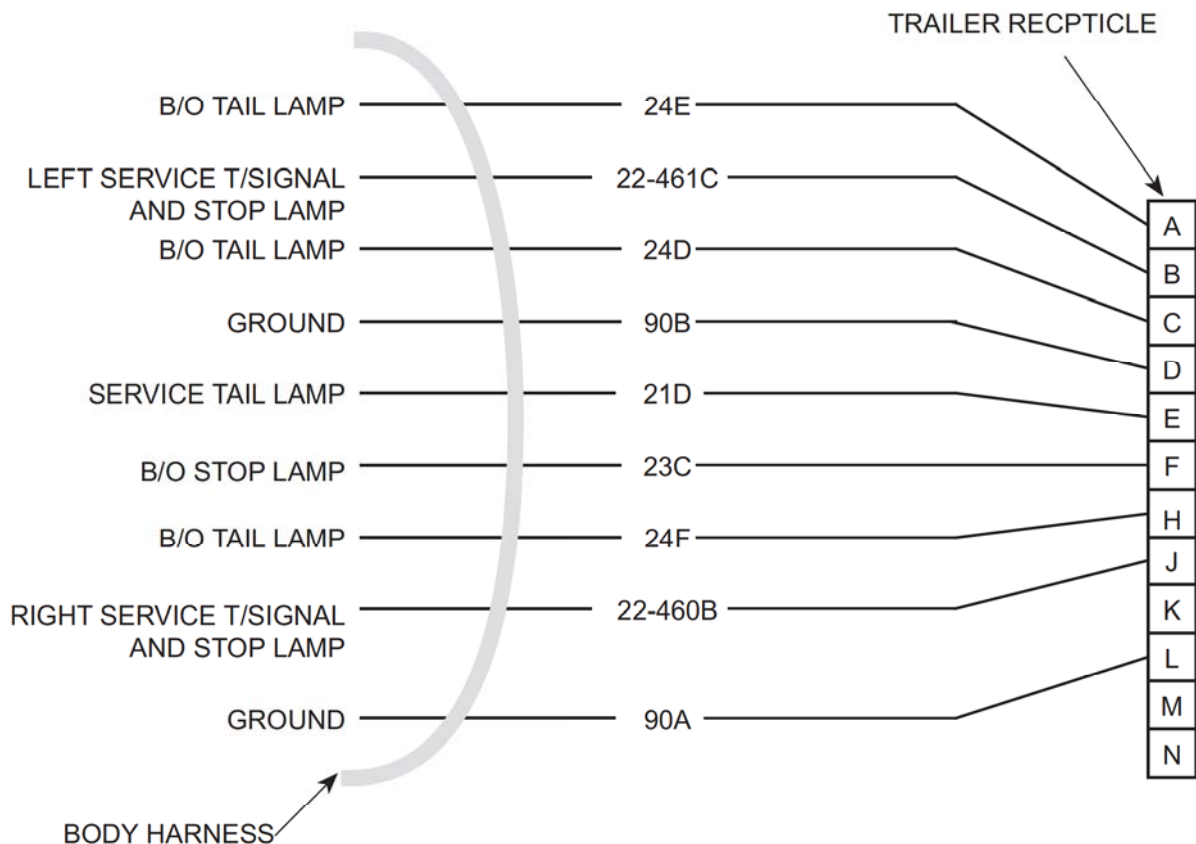

Figure 12-15. Trailer Lighting System Schematic.
**L. ONE OR MORE TRAILER LIGHTS INOPERATIVE (VEHICLE LIGHTING SYSTEM FUNCTIONS NORMALLY) (Figure 12-15)**